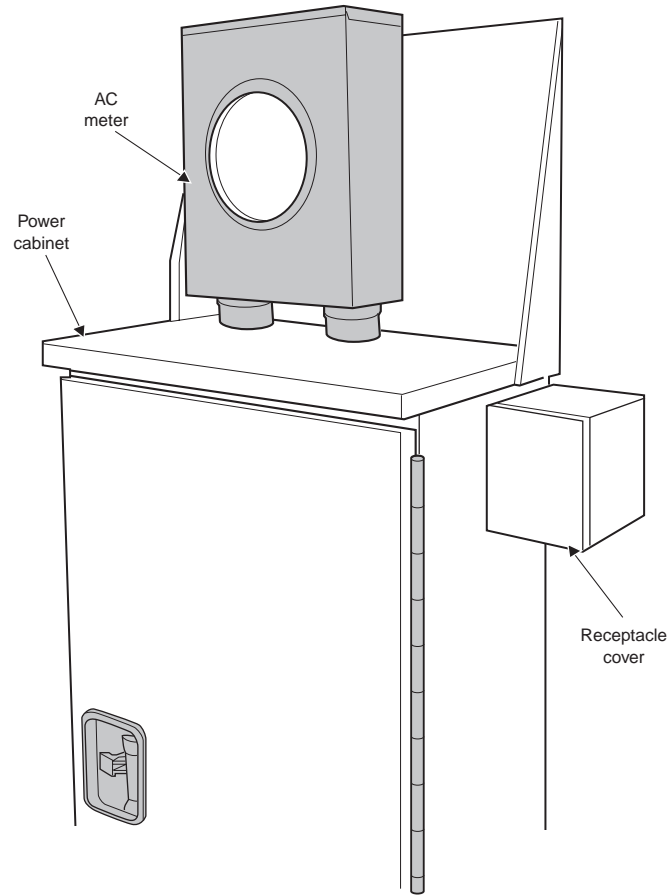

Figure 53. AC Meter Socket Installed
- 7 Install the cover on the female receptacle located on the outside of the power transfer cabinet as shown in Figure 53 on page 67.